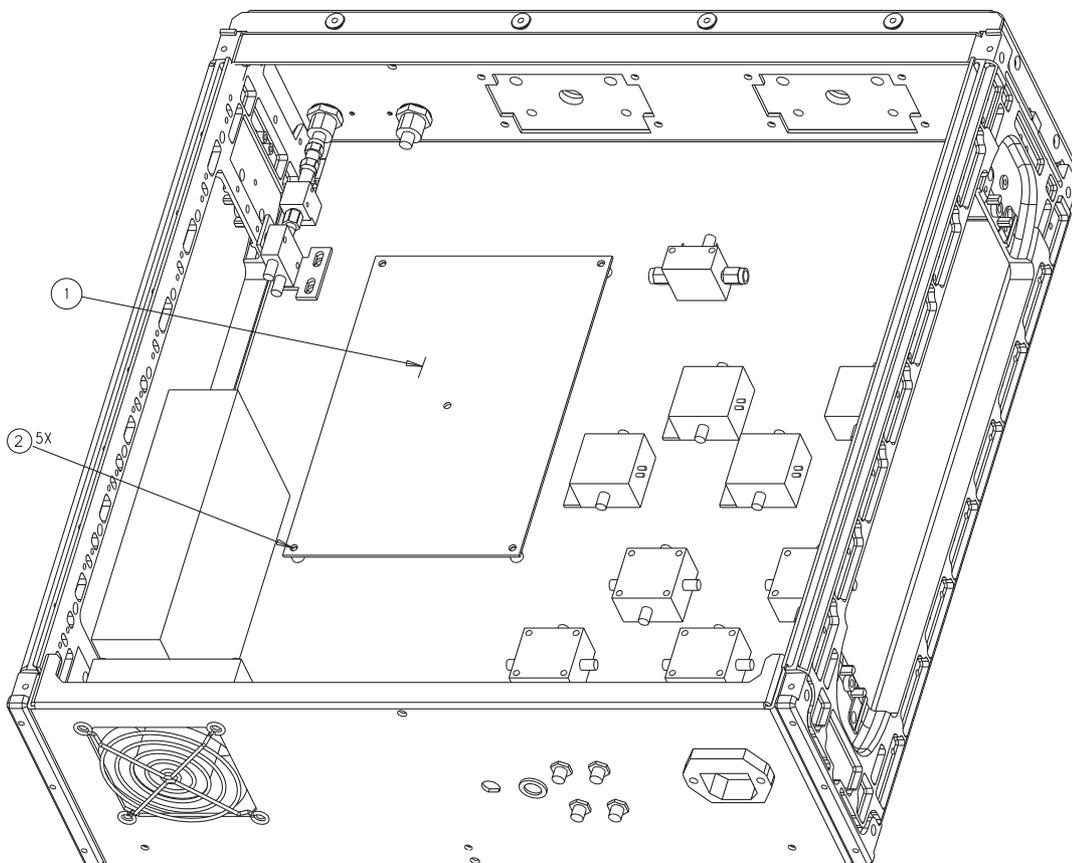

Figure 6-4. 54074-3 Control PCB Assembly Removal
3. Remove the five mounting screws (2) that secure the 54074-3 Control PCB Assembly. Refer to Figure 6-4, “54047-3 Control PCB Assembly Removal” on page 6-7
4. Remove the 54074-3 Control PCB Assembly (1) from the 3738A Test Set.